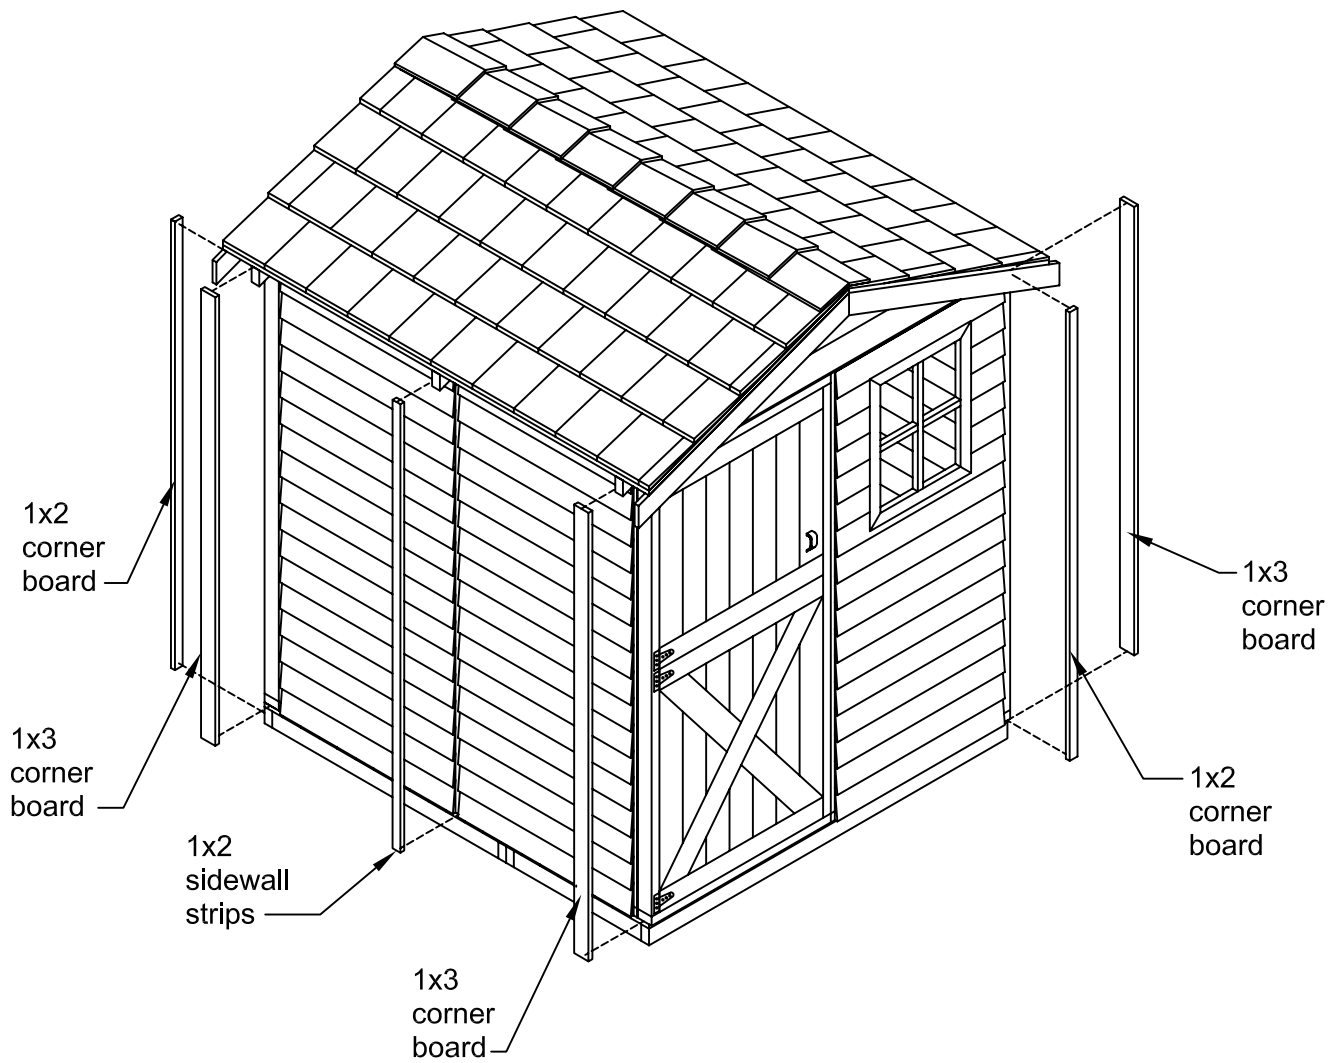

Figure E4
3. Attach all corner, centre and gable wall trim using 1 ¾" finishing nails, as shown in "Figure E4".